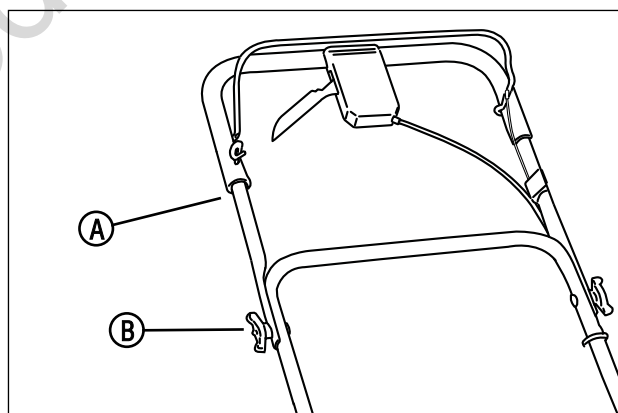

Figure 2: Unfolding the upper handle
4. Put the upper handle (**A**, **Figure 2**) in the operating (upright) position. Tighten the wingnuts (**B**).